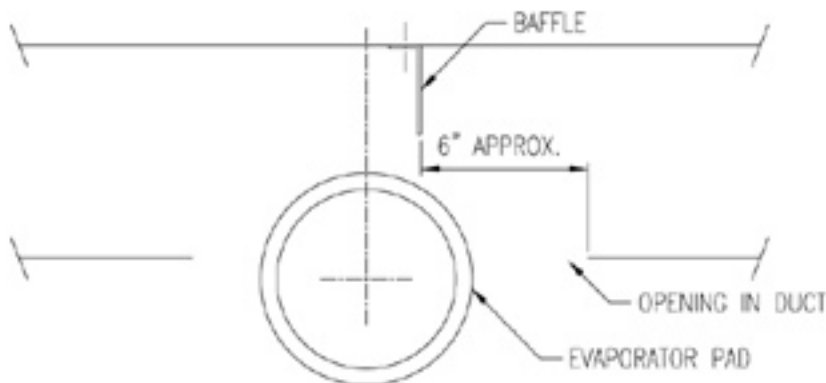

FIGURE 15: Installation of Baffle in Duct
2. Install the baffle in the inside of the ductwork, as shown in Figure 15, below. Reaching through the hole previously cut in the bottom of the duct, mark two holes on the top inside of the duct by holding the baffle in place about 6" (15.24 cm) from the side of the opening, then drill two holes 7/64" (0.28 cm) in diameter through the top inside of the duct and attach with two #8 sheet metal screws.